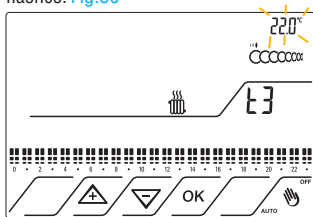

Fig.30
7.10 Then the display shows the third level value T3. The relative set temperature 22°C flashes. Fig.30